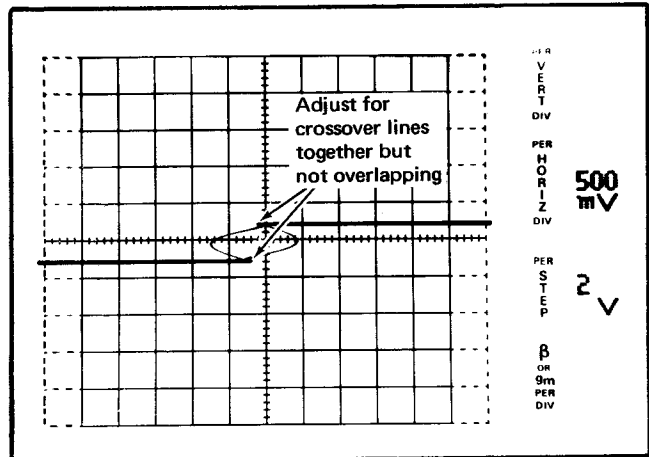

Fig. 5-8. Type 576 display of crossover lines for adjusting ZERO CROSS adjustment R8.
b. CHECK FOR—Crossover lines together at center (see Fig. 5-8).
h. ADJUST—R113, STEP AMP GAIN adjustment, (see Fig. 5-8) if the tenth step is not centered.